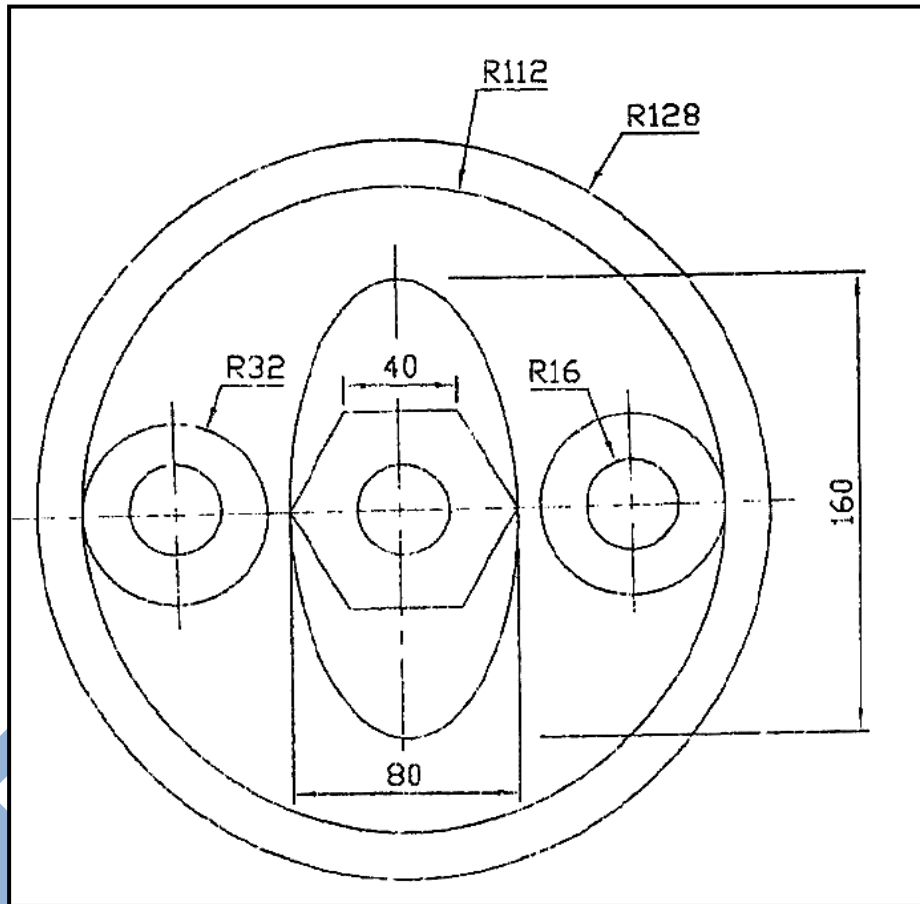

FIGURE 2
- 2.1 Draw to scale 1 : 2 the view of the metal piece shown in FIGURE 2 (DIAGRAM SHEET 2 attached).